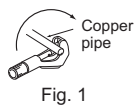

Fig. 1
- The drain hose should point downward for easy drain flow. (Fig. 1)
- 1) Put the refrigerant piping and the drain hose together, then firmly apply felt tape (4) from the end.
- 2) Pull out the drain cap at the rear right of the indoor unit. (Fig. 1)
- 1) Cut the copper pipe correctly with pipe cutter. (Fig. 1, 2)